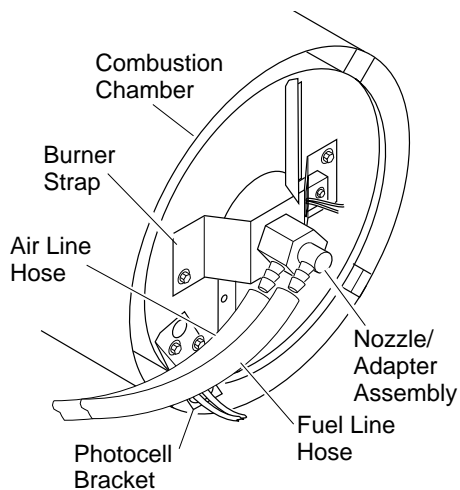
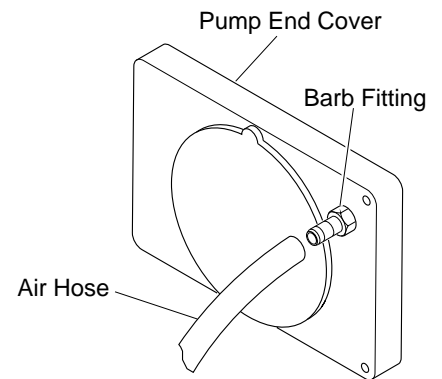

Figure 12 - Removing Air and Fuel Line Hoses
Figure 15 - Air Hose to Barb Fitting
3. Remove fuel and air line hoses from nozzle assembly (see Figure 12).
4. Inspect fuel and air line hoses for cracks and/or holes. If fuel line hose is damaged, disconnect from nozzle adapter (see Figure 12) and from fuel filter (see page 8). If air line hose is damaged, disconnect from nozzle adapter (see Figure 12) and from barb fitting on pump end cover (see Figure 15).
5. Install new air and/or fuel line. Attach one end of air line hose to barb fitting on pump end cover (see Figure 15) and the other end to nozzle adapter (see Figure 12). Attach one end of fuel line hose to fuel filter (see page 8) and the other end to nozzle adapter (see Figure 12). Route air and fuel line approximately as shown in Figure 12.